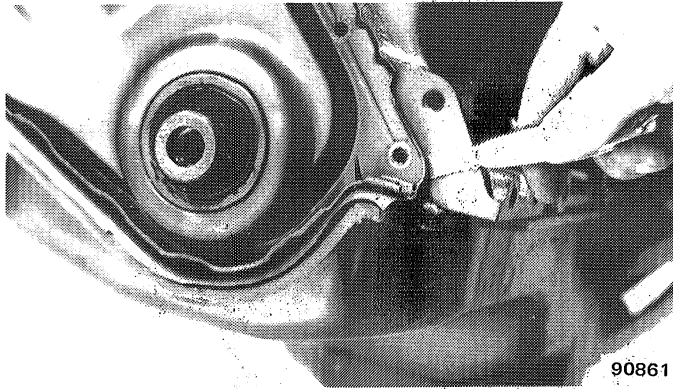

Fig. 1B-19 Cutting Pan Gasket
(1) Remove battery negative cable.
(2) Remove crankshaft vibration damper pulley hub. Refer to Crankshaft Vibration Damper Pulley Hub Replacement.
(3) Remove fan and shroud nuts. Loosen belts. Remove fan and shroud.
(4) Remove oil pan-to-timing case cover screws.
(5) Pull cover slightly forward only enough to permit cutting of oil pan front seal.
(6) Using sharp knife or other suitable cutting tool, cut oil pan front seal flush with cylinder block at both sides of cover (fig. 1B-19).
(7) Remove front cover and attached portion of oil pan front seal. Remove front cover gasket.
(8) Clean gasket surfaces on block and timing case cover.
(9) Cut tabs from replacement oil pan front seal (fig. 1B-20). Use sharp instrument to ensure clean cut.
(10) Install seal on timing gear cover. Press tips into holes provided in cover.
(11) Coat gasket with gasket sealer and place in position on cover.